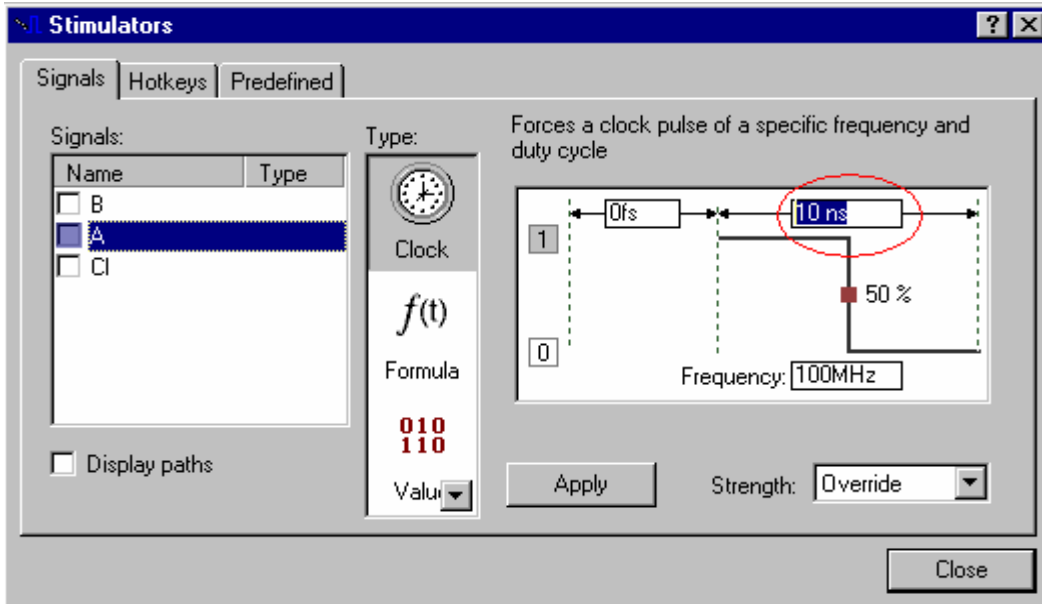

Figure 37
12. With the Stimulators window still opened, you can set additional signals by clicking the signals in the left side of the waveform. Once you have added all three input signals (i.e. A, B, and CI), choose a clock period of 10 ns for A by entering the time in second box from the left at the top of the window (see Figure 37). Click the Apply button.